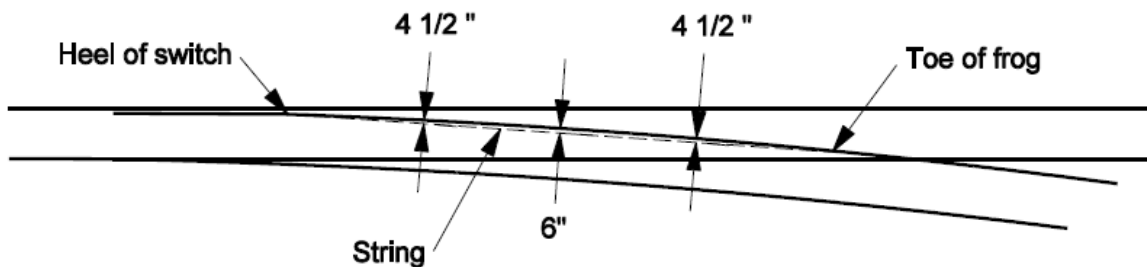

Figure 2.2.6-A
- e. Offset each quarter ordinate at a right angle to the string 4-1/2 inches and spike in place as shown in Figure 2.2.6-A.